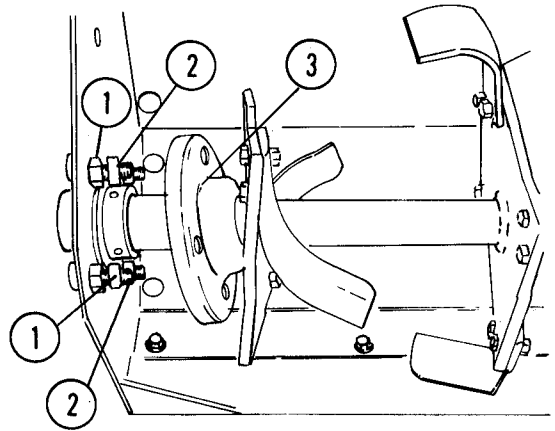

Fig. 23 — Tine Shaft (L.H. Side)
14. Remove 4 spacers and 4 remaining nuts and bolts holding flangettes in place, Figure 23.